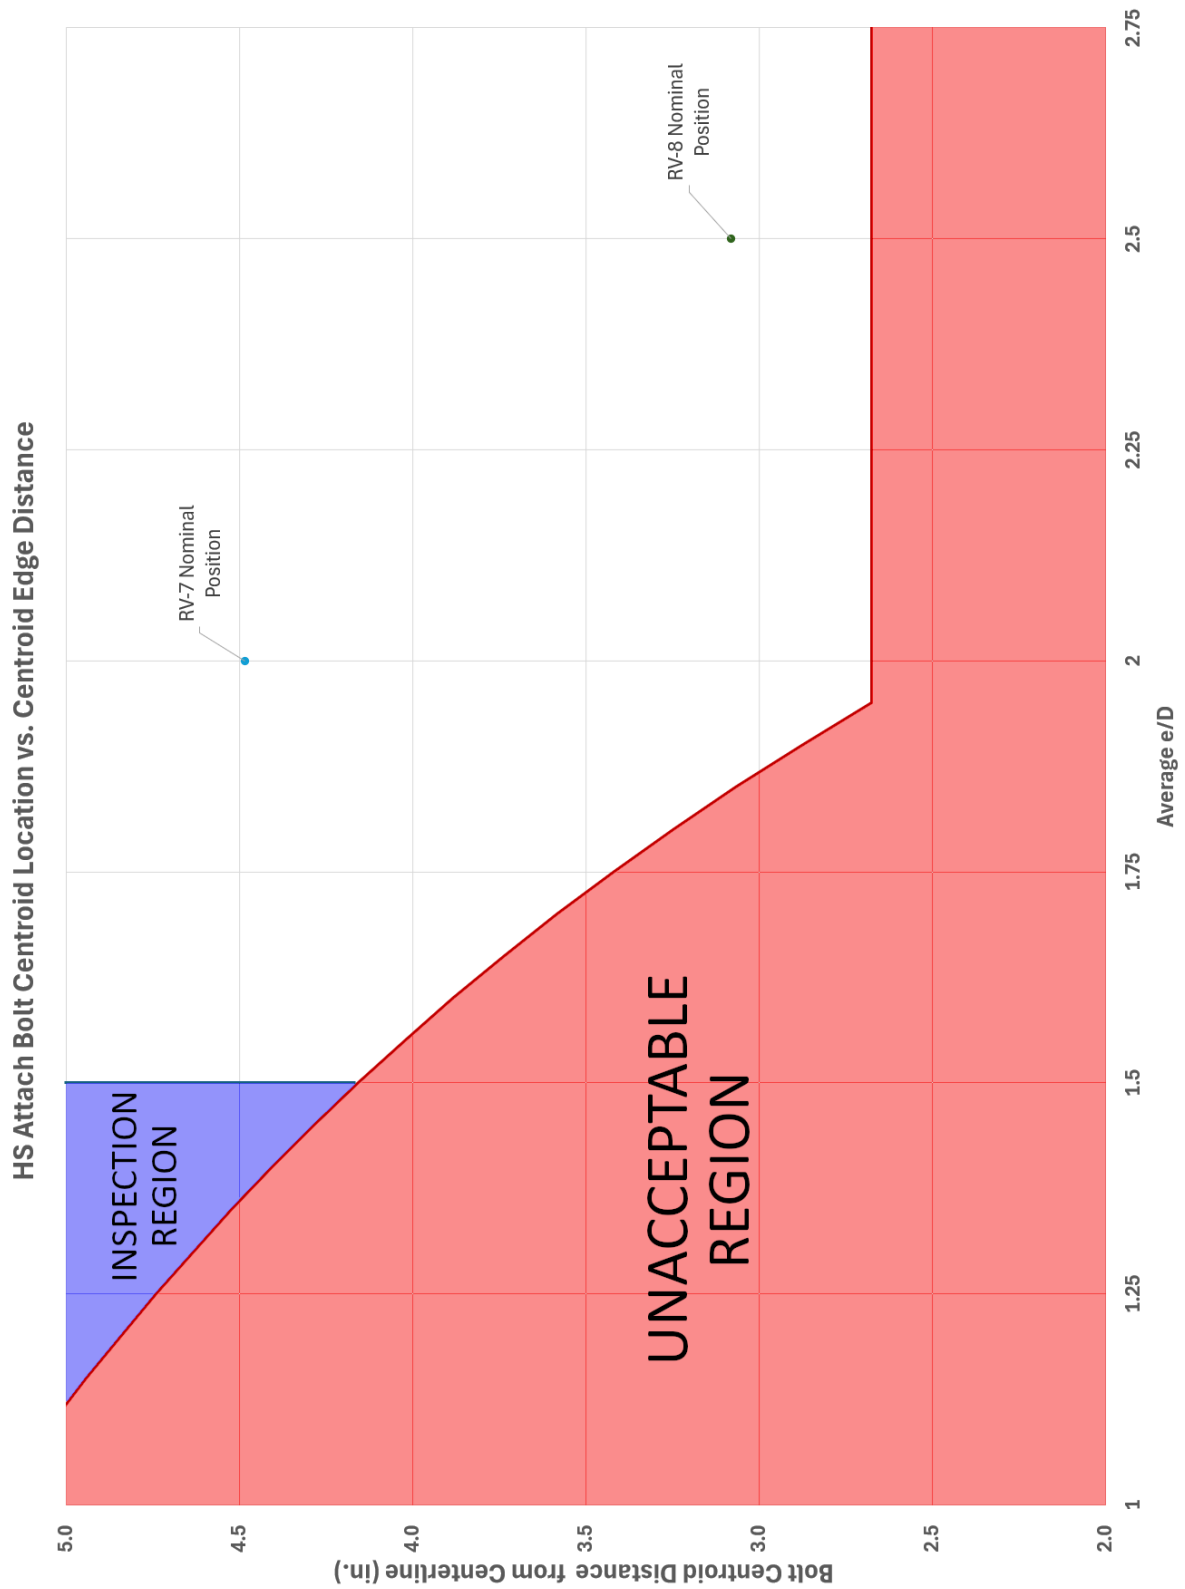
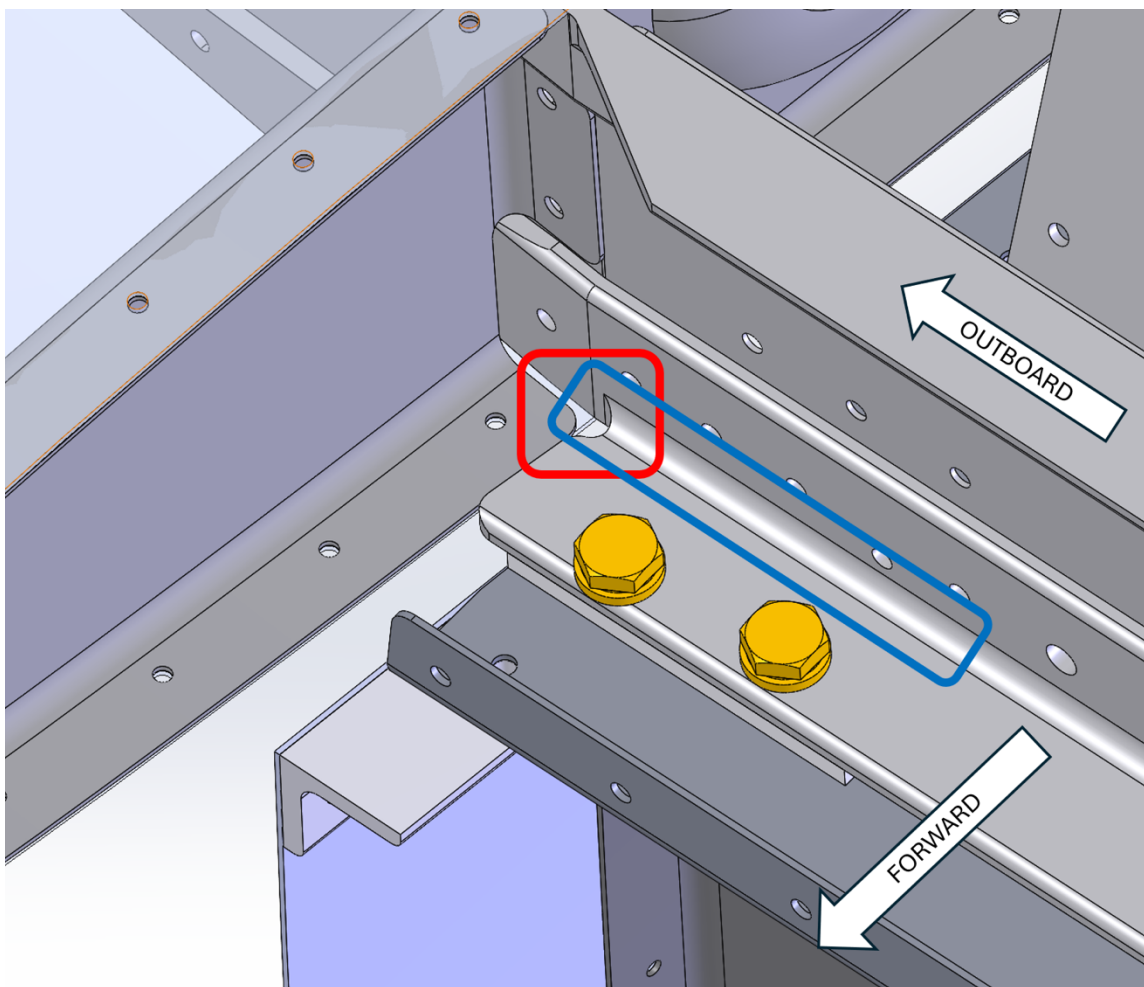
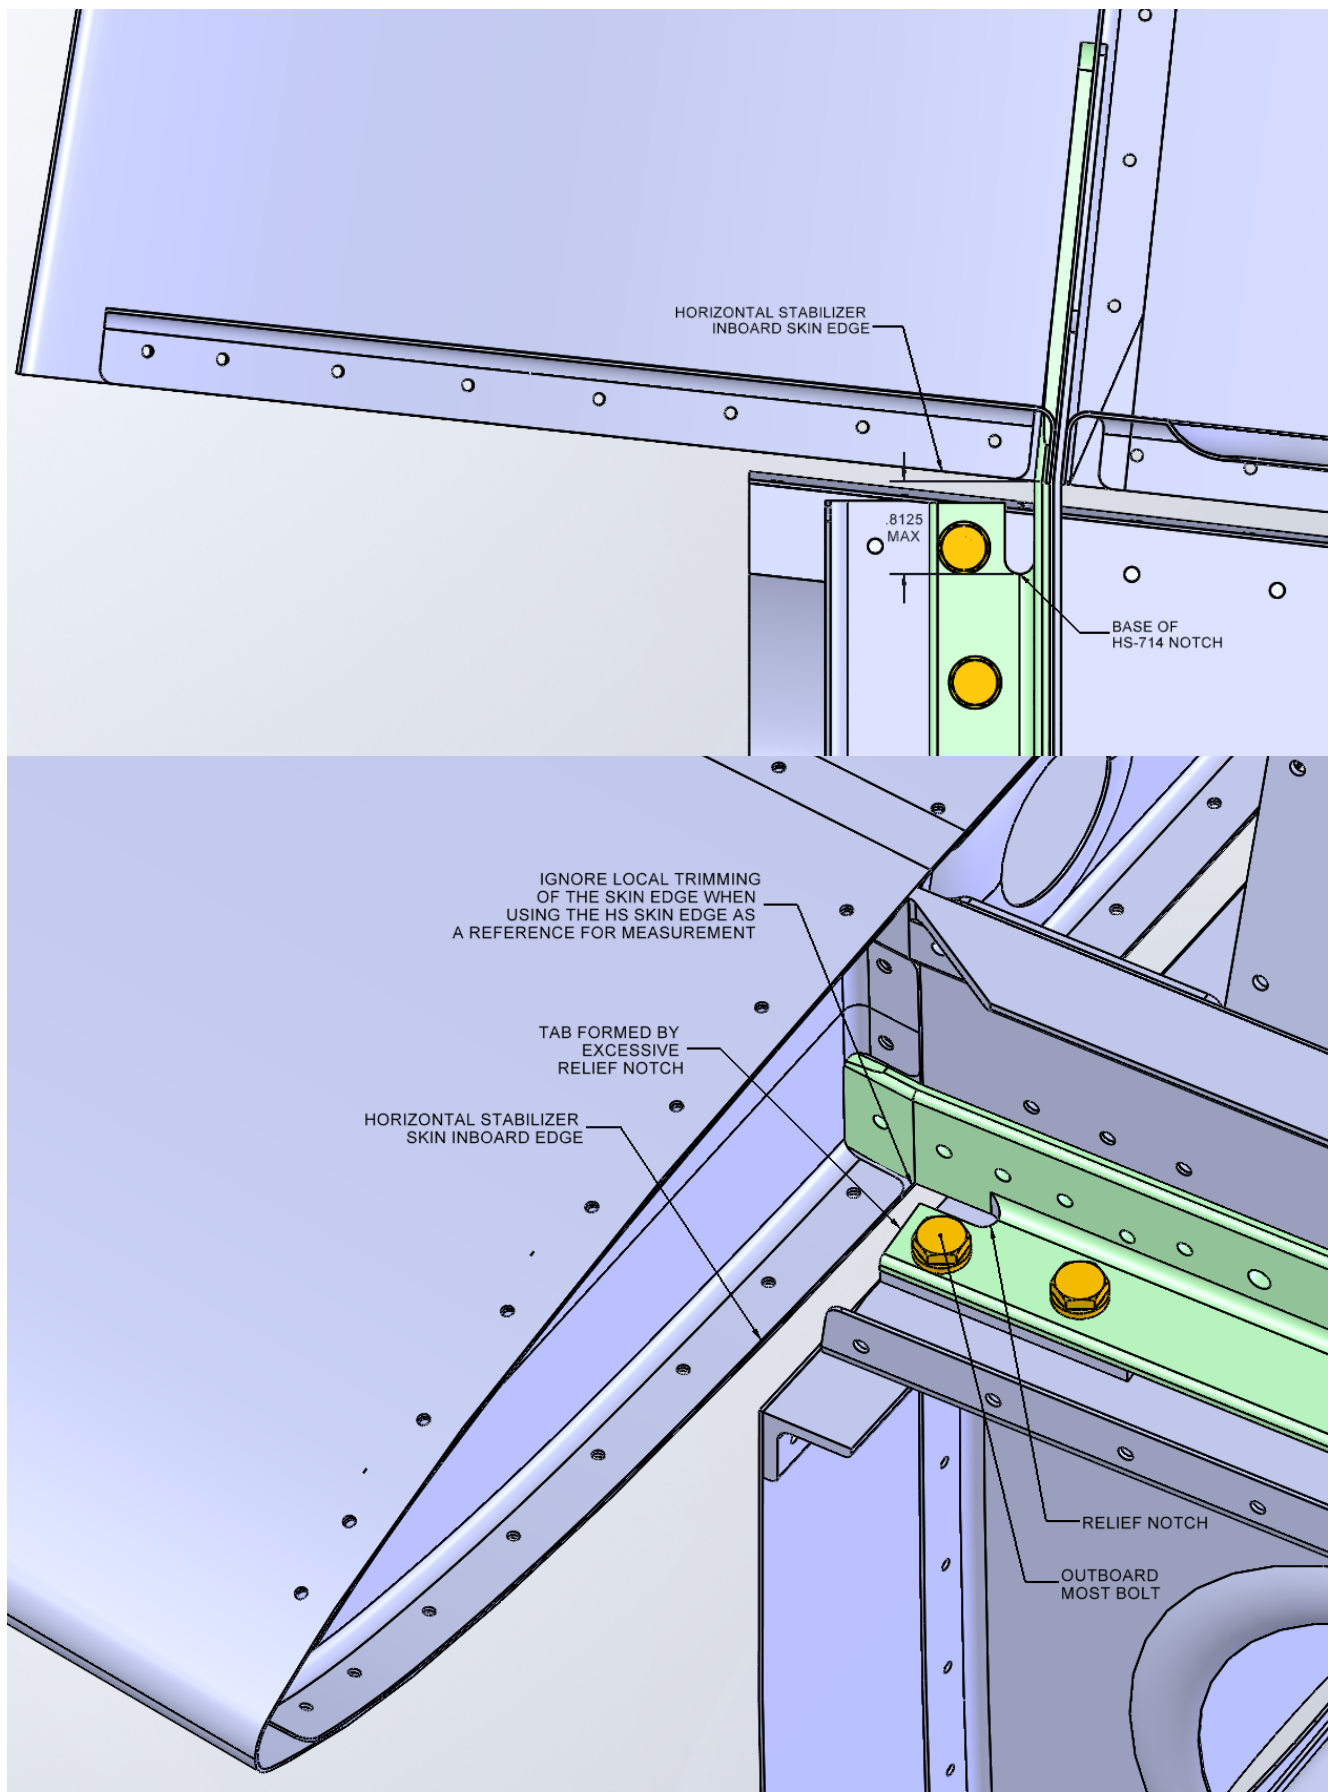

FIGURE 4: ACCEPTABLE BOLT POSITION CHART
FIGURE 6: INSPECTION LOCATIONS
FIGURE 9: RELIEF NOTCH DETAILS
Date Released: 09/18/26 – Rev 2.2 (Added e/D values in inches, Added Figures 9 and 10, Updated Figure 4, Updated Step 3, Added AN3 bolt size note)
A hole spacing less than 25/32 inches but not less than 1/2 inch is acceptable provided that the areas shown in Figure 6 and the areas between the bolts are carefully inspected at each annual or 100-hour intervals whichever comes first (the relief notch within the red box in the figure and the angle inside radius within the blue box). If the distance is less than 1/2 inch contact Van's Aircraft for further assistance.
An edge distance less than $e/D = 1.5$ (.28 in) but not less than $e/D = 1.0$ (.19 in) is acceptable provided that the areas shown in Figure 6 are carefully inspected at each annual or 100-hour intervals whichever comes first (the relief notch within the red box in the figure and the angle inside radius within the blue box).
Some notches are excessive and have effectively formed a tab on which the outboard most attach bolt is positioned as shown in Figure 9. This is permissible if the inboard edge of the notch meets the criteria above.
Any trim condition inboard of the trim profile shown within KAI but not greater than the maximum depth and criteria stated above and shown in Figure 9 is acceptable provided that the area within the red box shown in Figure 6 is carefully inspected at each annual or 100-hour intervals whichever comes first.
Step 5: Plot the average e/D value for the center of the bolt pattern and the forward edge of the HS-714 Attach Angle from Step 3 and the bolt pattern center distance to the centerline measured in Step 4. The plotted point must be outside the unacceptable region noted in Figure 4.
For example, the bolt pattern distance from Step 4 was 4.484 inches. Assume the nominal e/D of 2 (.38 in) of the center of the bolt pattern. This example corresponds to the RV-7 nominal point given on the chart in Figure 4. If the point on the chart is within the unacceptable area on the chart contact Van's Aircraft for further assistance.